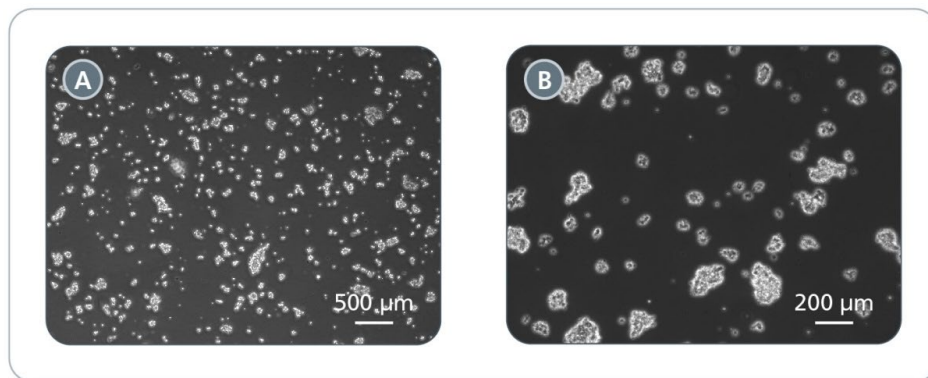

Figure 9. Effect of ReLeSR™ on hPSCs Cultured in mTeSR™1
Note: Optimal dissociation time may vary depending on the cell line used; when passaging a cell line with ReLeSR™ for the first time, the optimal dissociation time should be determined (see Figure 9 and section 8.0). For more information, refer to the product information sheet (PIS) of the respective cell line.
8. Transfer the detached cell aggregates to a 15 mL conical tube using a 5 mL serological pipette (e.g. Catalog #38003). Cell aggregates should be appropriately sized for plating (mean aggregate size of approximately 50 - 200 μm ; see Figure 9).